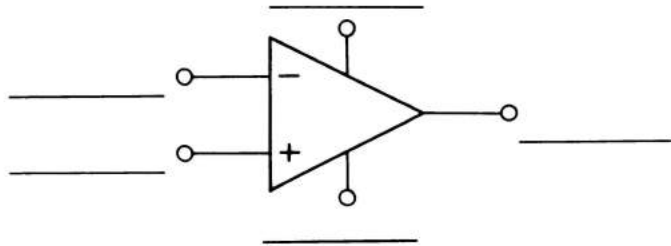

Figure 4-44
18. Label the terminals of the op amp shown in Figure 4-44.